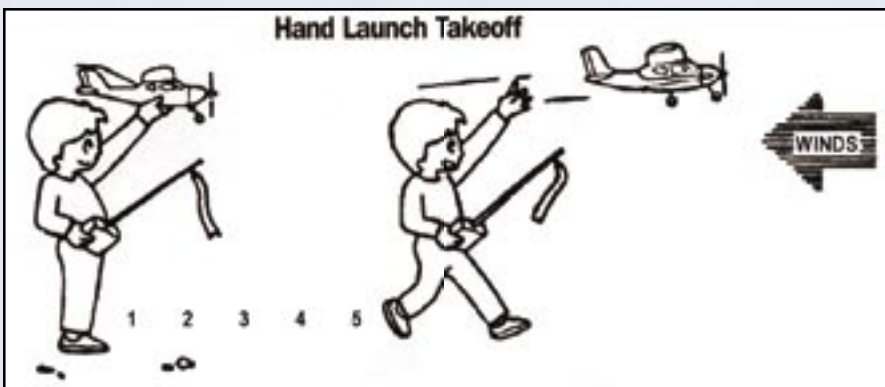

Figure 16 - Hand Launch
- 6) Give the plane a firm, level push forward as you run (in a smooth motion). **Do not throw the airplane!** Release the airplane straight and level with the ground. **Do not** release it with the nose pointed upward. The plane will begin to climb upon release. See **Figure 16**.